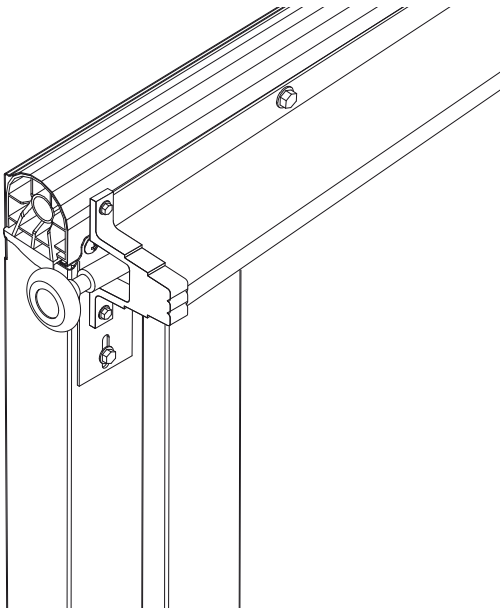

Fig: 3.3.1
- b) Secure the reinforcing bar to the top panel with 2 screws per stile as per Fig 3.3.1.